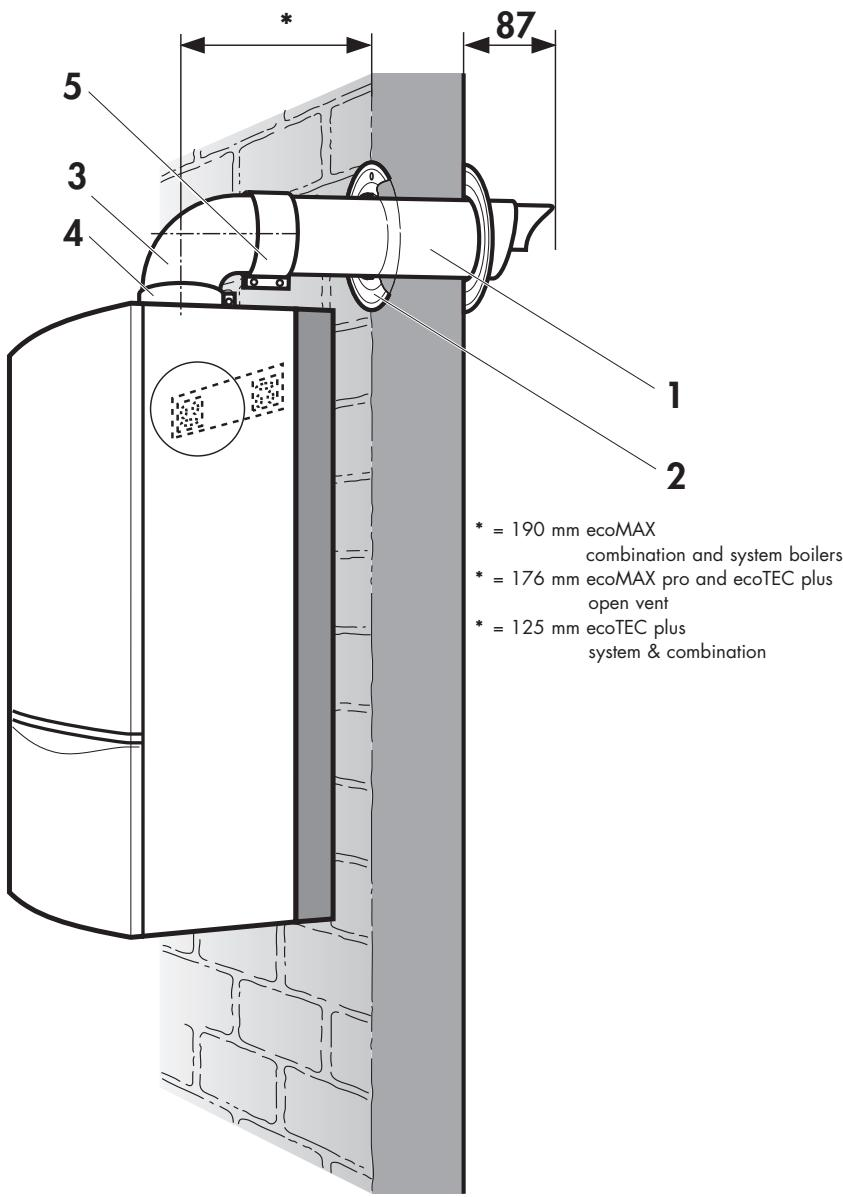

Fig. 3.8
- Push the air/duct assembly (1) including the flexible external seal through the wall until the seal clears the outside face of the wall and pull air/duct back towards the boiler until the external seal touches the outside wall (fig. 3.8 and fig 3.12).
- Ensure that the air/duct (1) is centred in the hole and the terminal is correctly positioned with the inlet grille at the bottom (fig 3.8 and fig 3.12).
- Slide the internal trim ring (2) over the air duct until it is flush with the wall (fig. 3.8).
- Fit the elbow (3) to the boiler by inserting the spigot of the flue elbow into the flue socket on the boiler and secure using the 30 mm air duct clamp (4) provided (fig. 3.8).
- Fit the 48 mm air duct clamp (5) ensuring that it is positioned centrally (fig. 3.8).